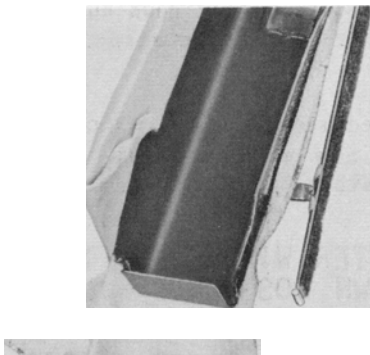

FIG. 2
2. At the forward end of the trim retainer, bend the end metal piece slightly forward and release the first clip of the window seal, then, move the seal away from the panel sufficiently to clear the vinyl trim, permitting only one layer of vinyl to remain between the window seal and the panel, see Fig. 2.